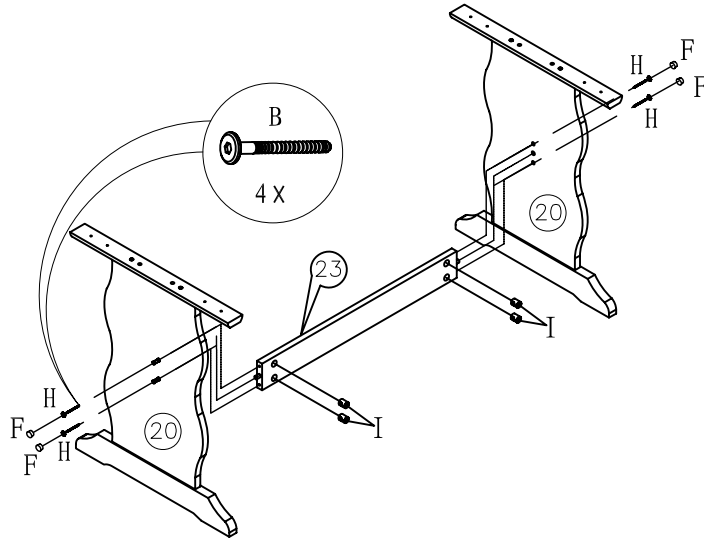

FIGURE 3
- 1) ATTACH CROSSBAR #23 TO LEGS #20 INSERTING WOOD DOWELS LOCATED AT ENDS OF CROSSBAR INTO HOLES LOCATED ON LEGS. SECURE CONNECTION USING (04) SCREWS (H) AND (04) NUTS (I). AS SHOWN IN FIGURE 3.
- 2) INSERT (04) WOOD HOLE COVERS (F) INTO HOLES LOCATED AT LEGS #20 AS SHOWN IN FIGURE 3.